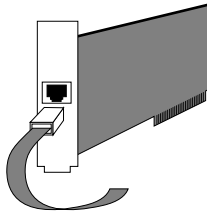

Figure 2-12 Connecting a Cable to a PC
- 3** Plug the other end into one of the RJ-45 ports on the hub as shown in Figure 2-12.